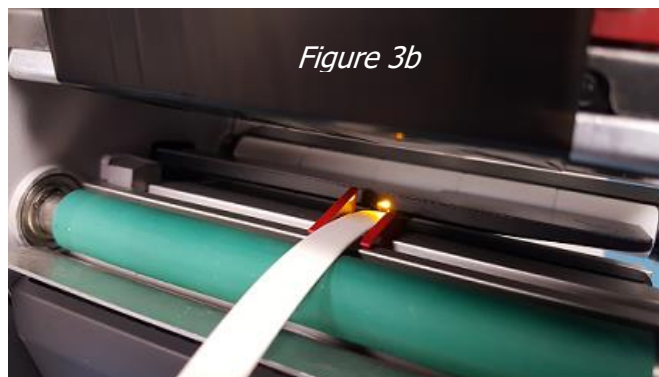

Figure 3b
4. Line up the back of the cutter with the mounting points on the printer. See *Figure 3b*
6. Slide the sensor out over the tubing so that the amber LED is directly over the tubing. See *Figure 3b*